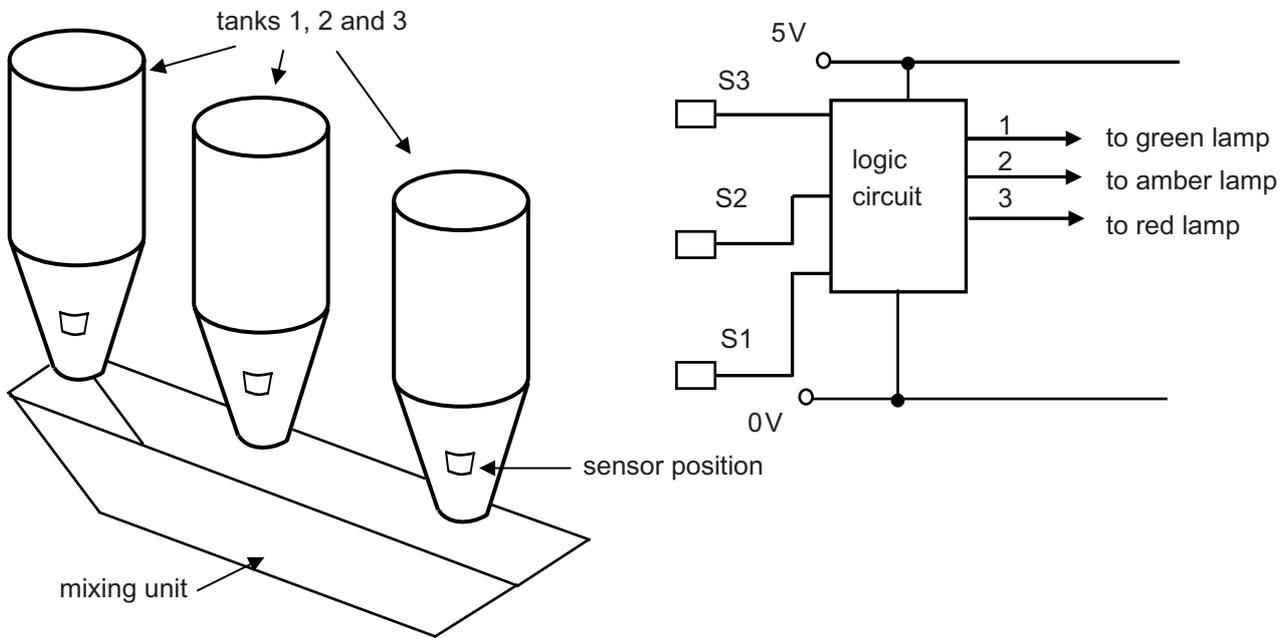

Fig. 2(a)
- 2 **Fig. 2(a)** shows part of a proposed system which consists of 3 tanks that supply powdered chemicals to a mixing unit. The levels in the tanks are indicated on coloured lamps which can be checked by an operator. The levels in the tanks are detected by 3 sensors S1, S2, and S3 as shown in **Fig. 2(a)**. Each sensor outputs logic “0” when the powder levels are satisfactory and a logic “1” when low. A green coloured lamp will be illuminated if all tanks are sufficiently full. If any one tank has a low level an amber lamp will illuminate and if any 2 or all 3 tanks have low levels a red lamp will be illuminated.
- (a) (i) The sensors to be used to detect the levels in the tanks in **Fig. 2(a)** should not come into direct contact with the powder. Describe, with the aid of a diagram a suitable sensor that could be used for this purpose. [2]